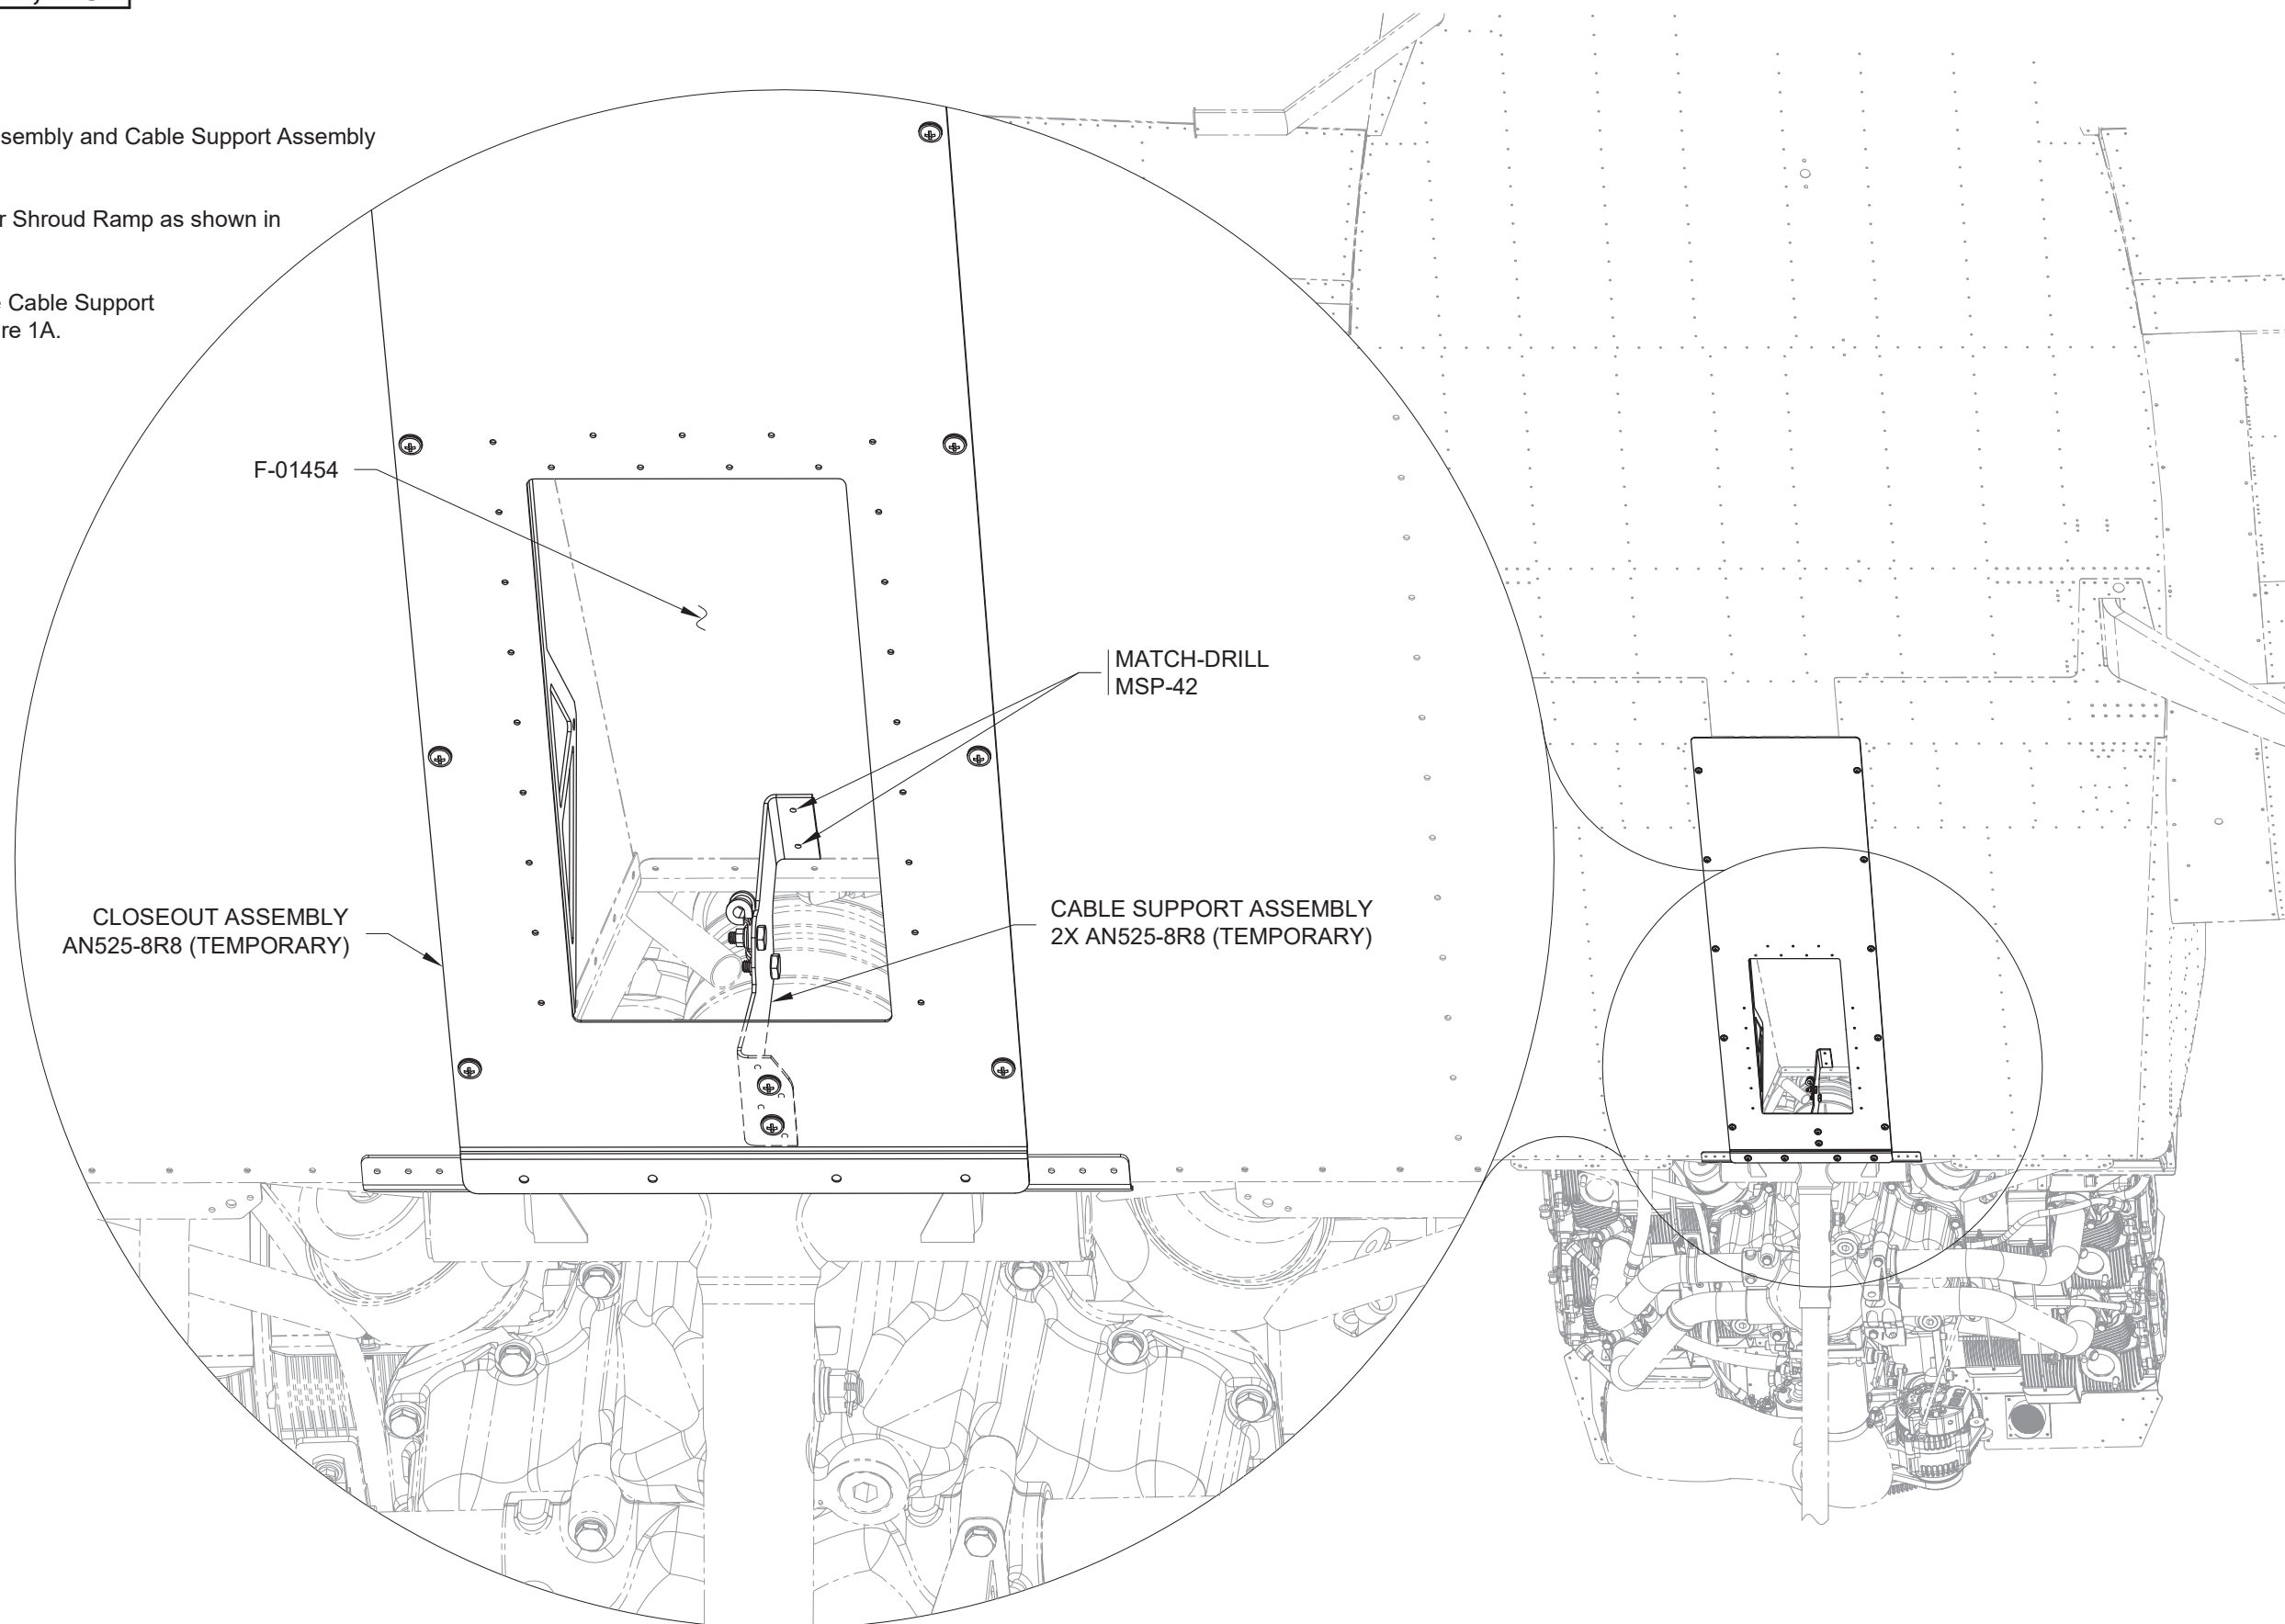

FIGURE 1A: CABLE SUPPORT ASSEMBLY INSTALLATION
Step 2: Match-Drill #30 the F-01454 Muffler Shroud Ramp as shown in Figure 1A.
Step 3: Disassemble, deburr, then rivet the Cable Support Assembly to the F-01454 as shown in Figure 1A.
Step 1: Install the Exit Door Assembly in the Closeout Assembly as shown in Figure 1A.